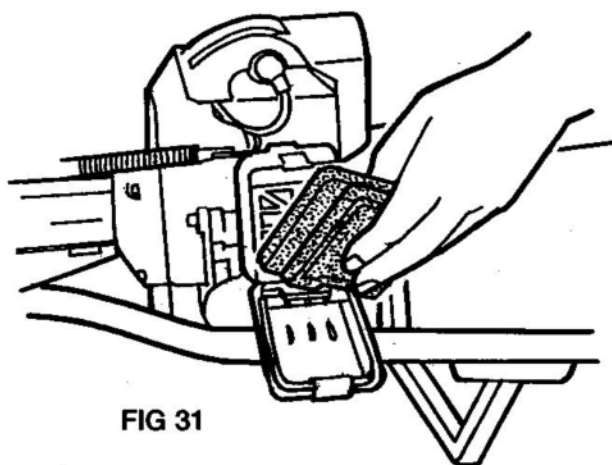

FIG 31
5. Reinstall the filter (Fig. 31) air filter cover.
2. If air filter is dirty then correct idle adjustment can not be made and air filter must be cleaned. Refer to Air Filter Maintenance and Figs 31, 32 and 33A.